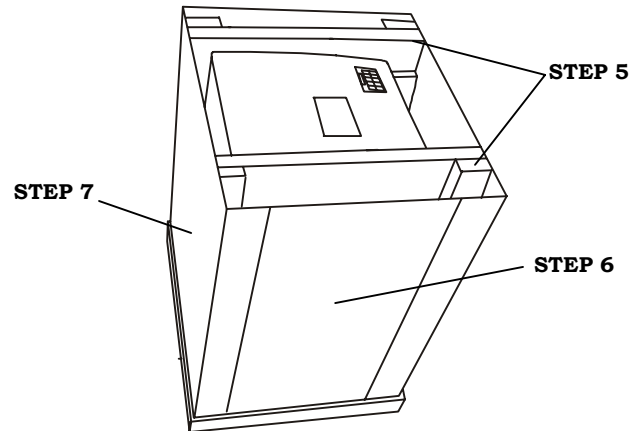

FIGURE A-3
5. Remove the packing material from the top of the printer. See Figure A-3.
6. Lift out the single panel of the shipping package sleeve. See Figure A-3.
7. Now remove the remaining 3-sided package sleeve and the packing material. See Figure A-3.